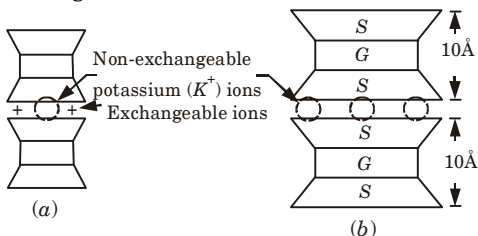

Fig. 8. Structure of illite mineral.
- The basic structural unit of illite is symbolically represented as shown in Fig. 8(a).